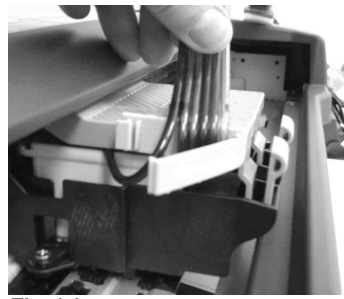

Fig. 14
- Pull the tubing flush into the clip. Ensure the tubing is not pinched in any way as to constrict ink flow. See Fig. 14